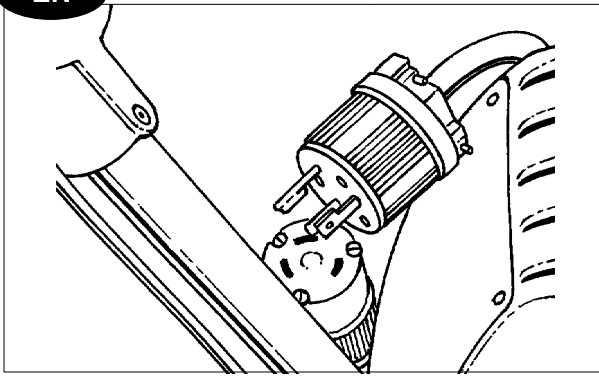

Figure 7
5. Disconnect the motor pigtail from the handle pigtail if so equipped. (See Figure 7)